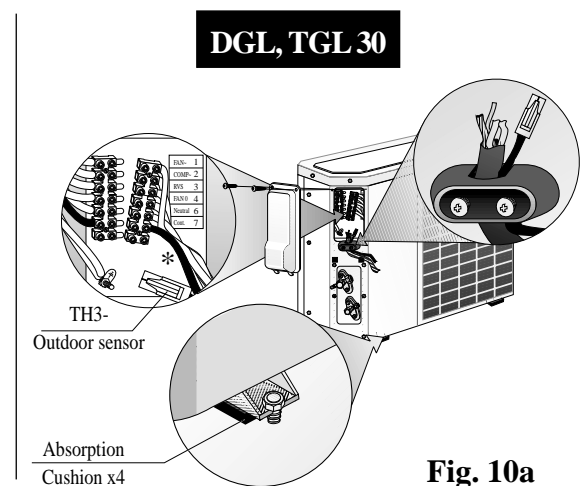

Fig. 10a
- For DGL and TGL-30 models fasten the outdoor unit legs to the base, as shown in Figure 10a. Place the rubber absorption cushions (supplied) under the unit's legs to prevent vibrations.
- For DGL, and TGL 30 secure the inter-unit electric cable to the outdoor unit with the clamp shown in Figure 10a.